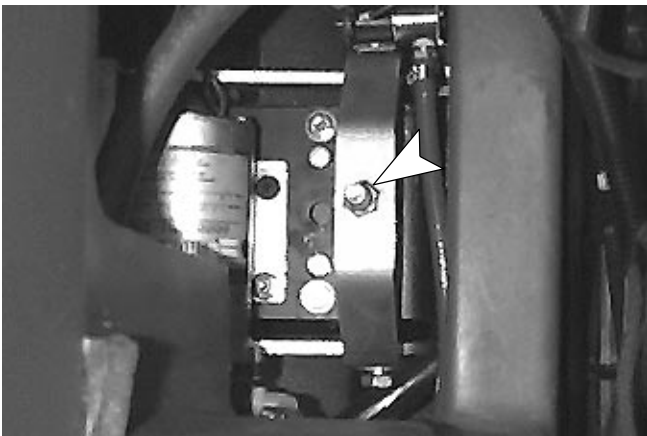

FIG. 28
3. Turn adjustment nut clockwise for more pick-up head pressure or counter-clockwise for less. Do not remove nut (Figure 28).